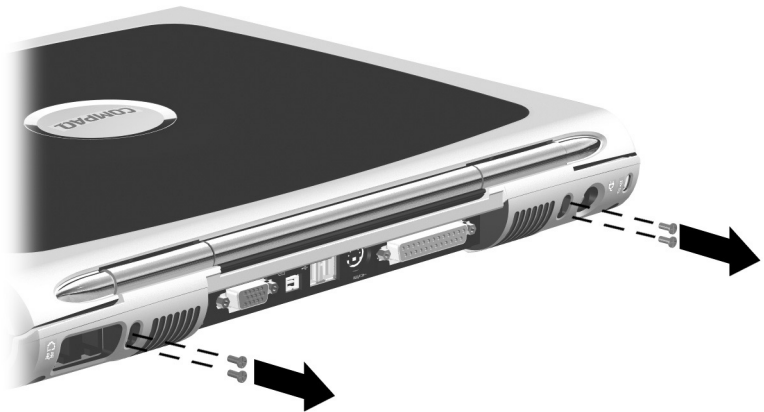

Figure 5-19. Removing the Display Screws
5. Remove the four PM2.0 × 8.0 screws that secure the display hinges to the base enclosure (Figure 5-19).